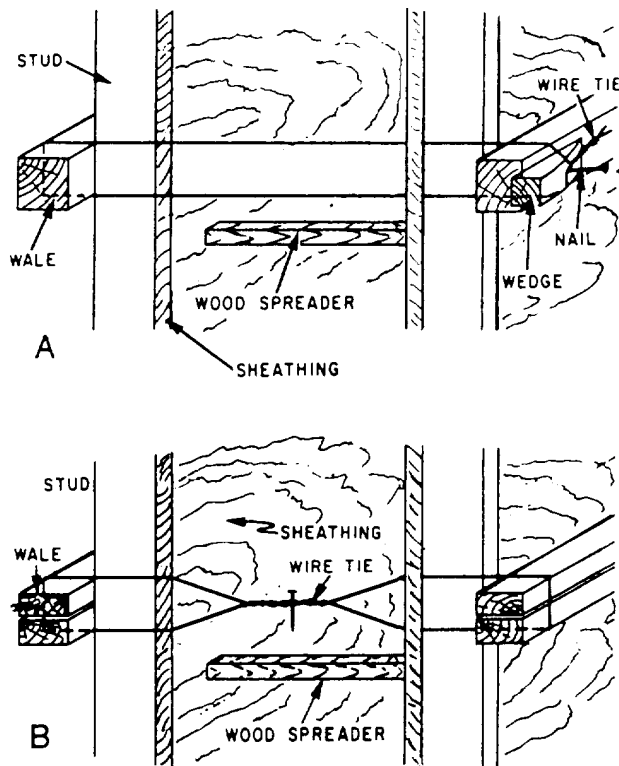
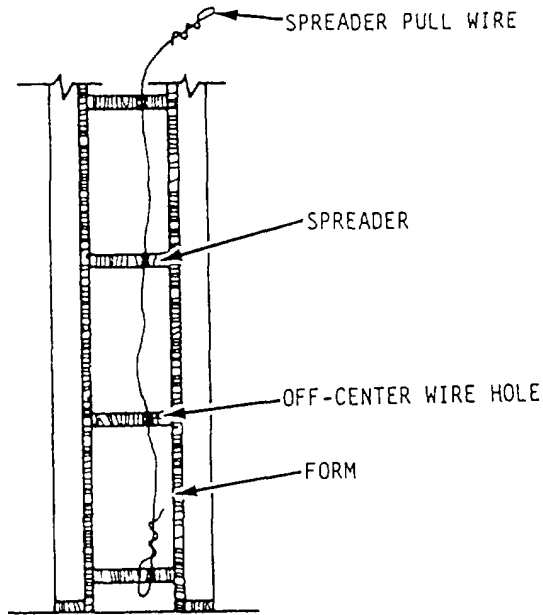

Figure 7-9.-Wire ties for wall forms.
Figure 7-10.-Removing wood spreaders.
**REINFORCEMENT.**— Wall forms are usually reinforced against displacement by the use of ties. Two types of simple wire ties, used with wood spreaders, are shown in figure 7-9. The wire is passed around the studs, the wales, and through small holes bored in the sheathing. Each spreader is placed as close as possible to the studs, and the tie is set taut by the wedge, as shown in view A of figure 7-9, or by twisting with a small toggle, as shown in view B. As the concrete reaches the level of each spreader, the spreader is knocked out and removed. Figure 7-10 shows you an easy way to remove the spreaders by drilling holes and placing a wire through them. The parts of the wire that are inside the forms remain in the concrete; the outside surplus is cut off after the forms are removed.